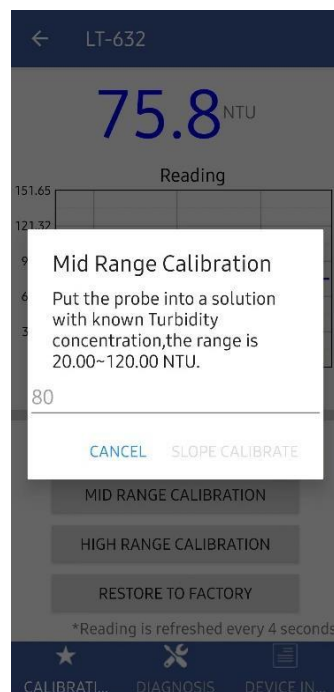

Figure 11
3. Wait until the reading stabilizes and then click the Midpoint Calibration button to calibrate the midpoint to the value of the standard utilized, as shown in Figure 11.